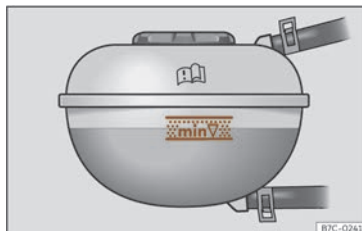

Fig. 216 In the front compartment: marking on coolant expansion tank.
- When the engine is cold, check the coolant level using the side marking on the expansion tank >>> **Fig. 216**. The coolant level should be between the marks.
- The coolant level must be between the marks on the expansion tank >>> **Fig. 216**. **Never exceed the top edge of the marked area** >>> .
- When topping up the, do not fill over the upper edge of the marked area >>> **Fig. 216**. Otherwise, when the temperature rises the excess fluid will be expelled from the motor cooling system and could cause damage.